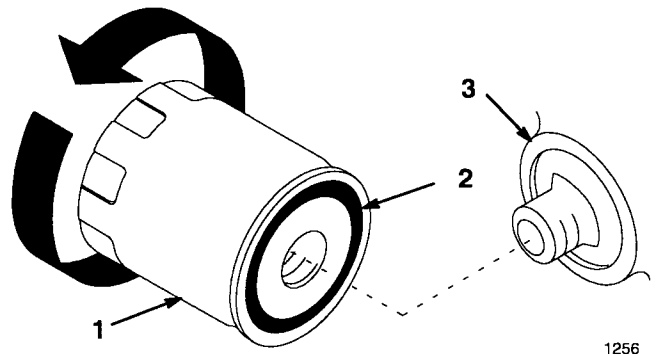

Figure 44
2. Remove the transaxle filter and wipe the filter adapter (Fig. 44) gasket surface.
3. Apply a thin coat of new oil to the rubber gasket on the replacement filter (Fig. 44).
4. Install the replacement transaxle filter to the filter adapter. Turn the filter clockwise until the rubber gasket contacts the filter adapter, then tighten the filter an additional 3/4 turn (Fig. 44).